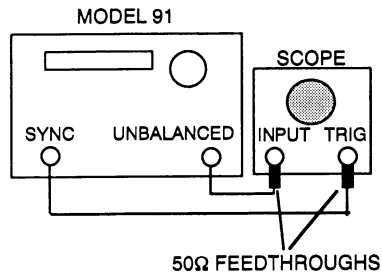

Figure 4-21. Unbalanced Setup
- The Model 91 displays **DLY UB OUT XXX**. Connect the test equipment as shown in figure 4-21.